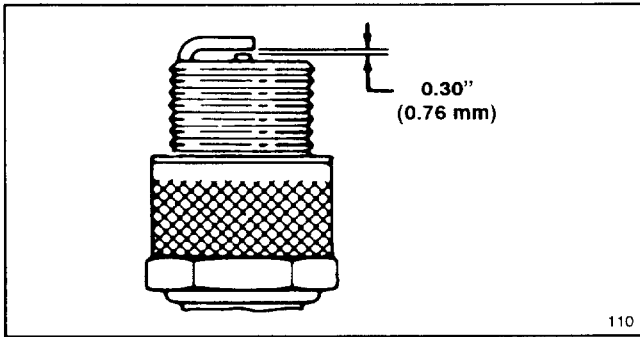

Figure 31
3. Set air gap between electrodes of new spark plug at 0.030" (0.76 mm) (Fig. 31). Next, install spark plug in cylinder head. Tighten plug to 15 ft–lb (20.4 N·m).